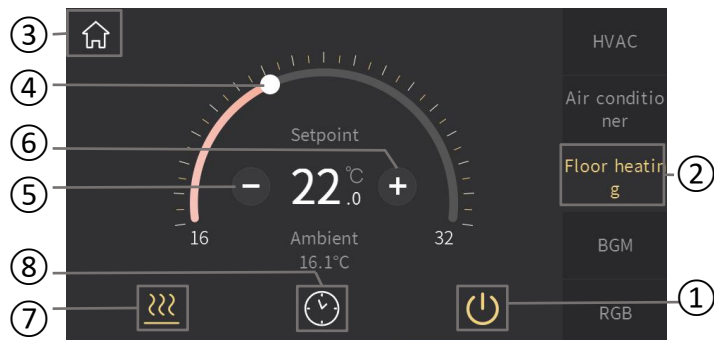
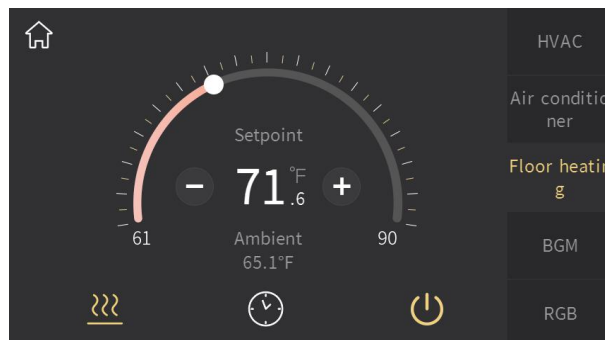

Fig.2.5.1
Fig.2.5.2
- ② This area displays the page description identification of Floor heating, user can define the description through ETS;
- ③ Return to the home page by touching this icon;
- ④ Adjust the setting temperature by sliding this ring slider;
- ⑤ The function of this icon is to decrease the temperature;
- ⑥ The function of this icon is to increase the temperature;
Adjusting the temperature by sliding the ring slider④ or touching the icon⑤ and icon⑥. For each touching of icon⑤ and icon⑥, the adjustment range is 0.5 degrees. When the setting temperature unit is set to degrees Celsius(°C), as shown in Fig.2.5.1, adjustment range of the setting temperature is 16~32°C by default; when the setting temperature unit is set to Fahrenheit(°F), the current temperature value will automatically convert to Fahrenheit value, as shown in Fig.2.5.2, adjustment range of the setting temperature is 61~90°F by default. The temperature adjustment range can be modified through parameter setting.